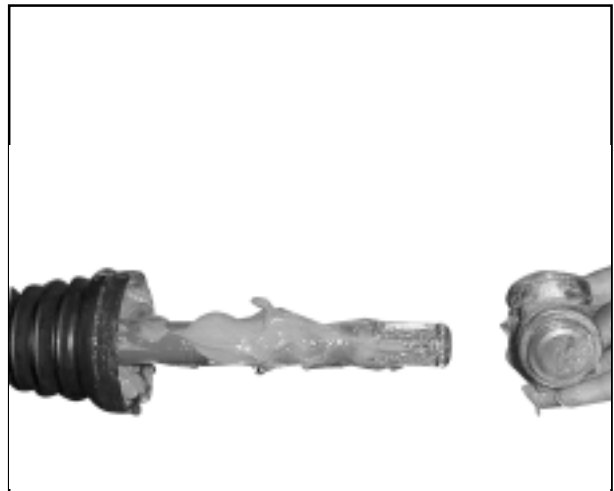

Fig. 12
6. Remove the tripod spider assembly from the axle shaft as shown in Fig. 12. If required tap the spider assembly gently using a nylon mallet.